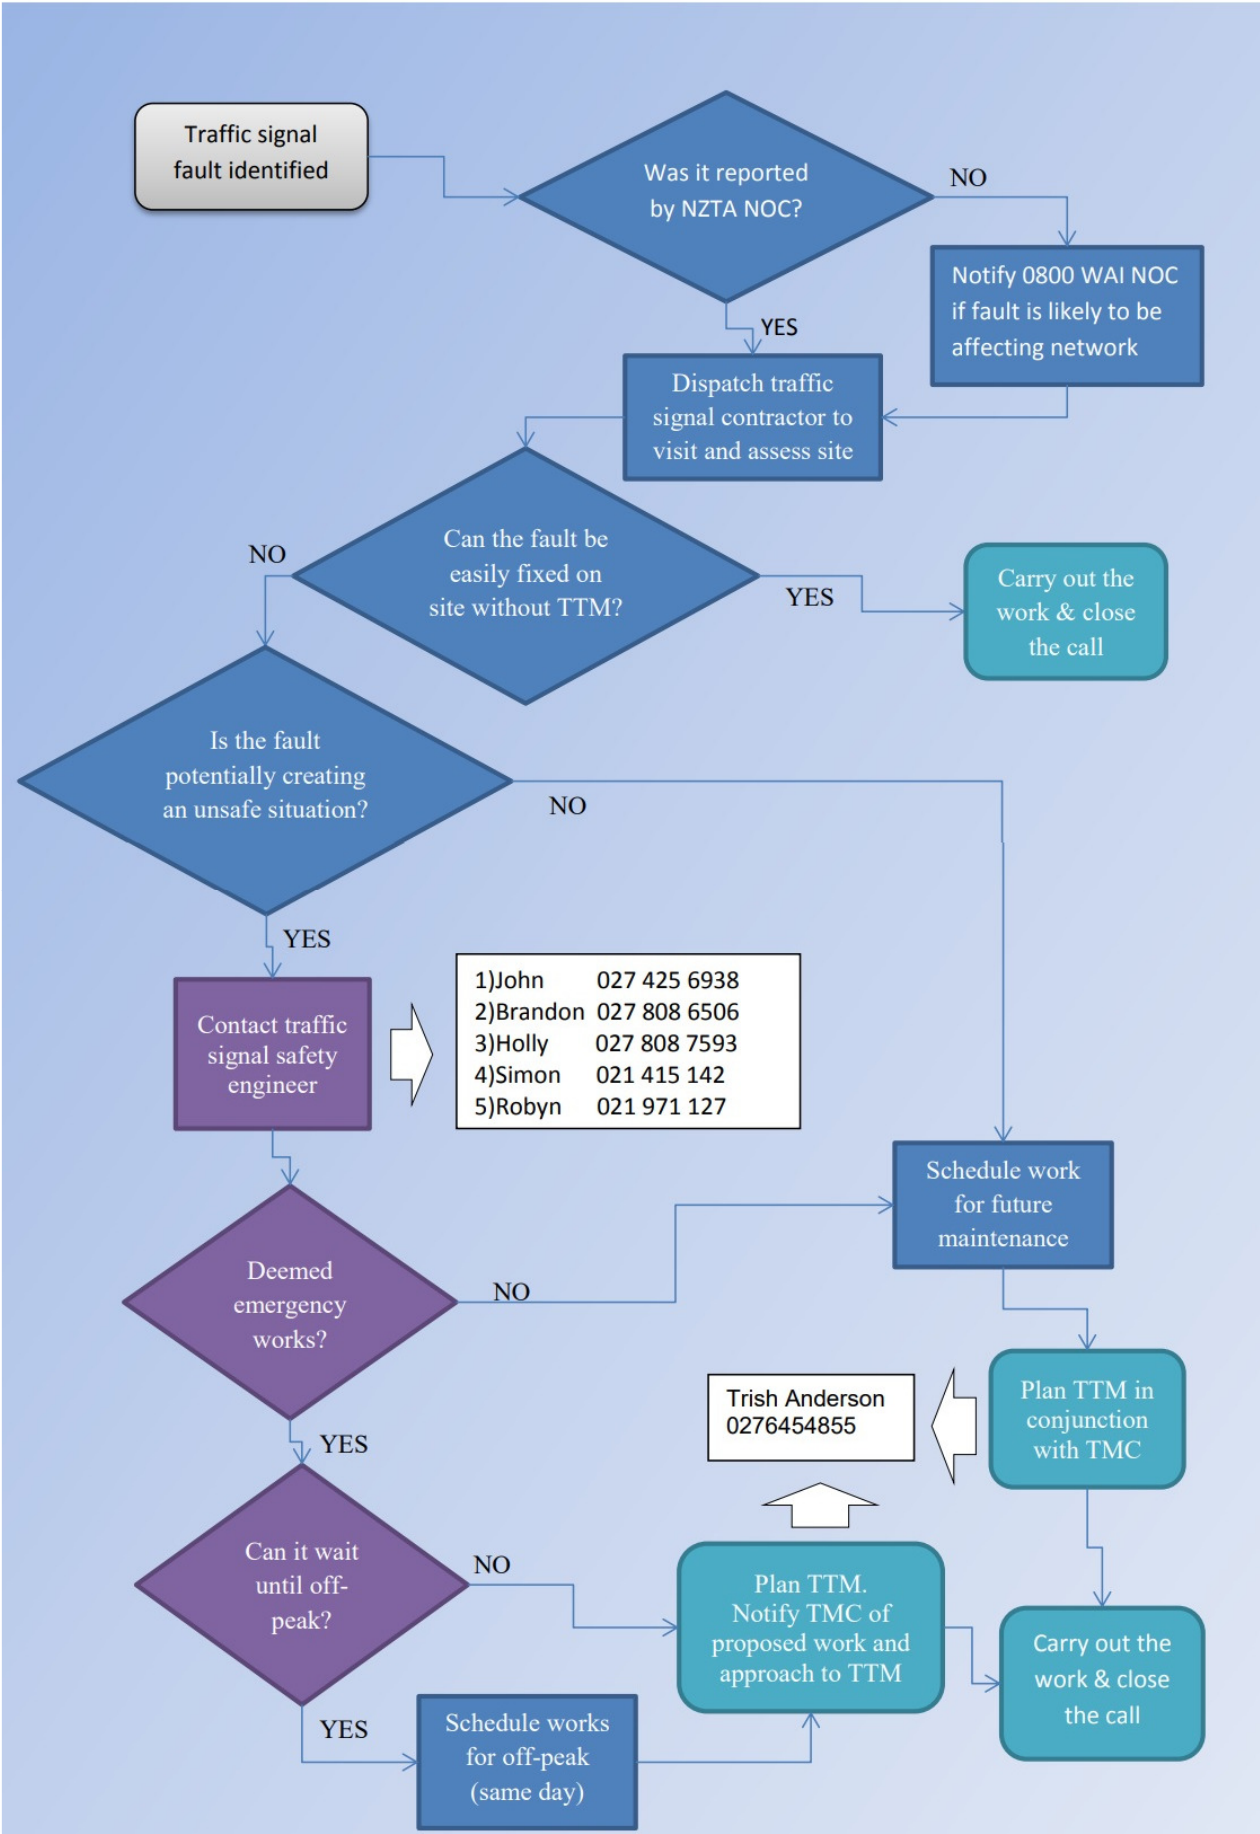

Figure R01 - State Highway Traffic Signal Fault Procedure
- 1 For State Highway sites the incident flow-chart for emergency works will need to be followed. Refer to Figure R01 in Appendix S.